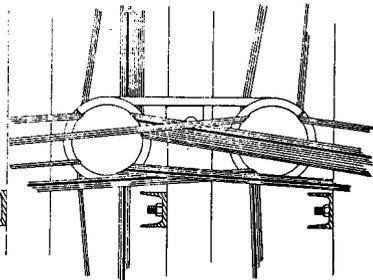
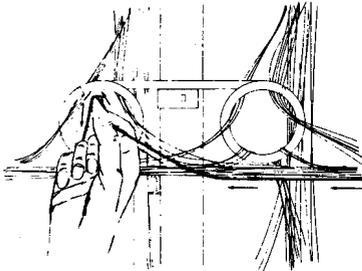

FIGURE 3. Line Drawing Designed to Illustrate How Jumpers, Ideally, Should Enter and Leave Rings.
FIGURE 4. Right Hand Receiving a Right-to-Left Jumper (HLIDF) and Placing It Into Ring at the Top Inside Edge.
- 5.04 Figure 3 is a line drawing of jumpers entering and leaving a ring and is being used *only* to illustrate the distribution of jumpers to different sections of the ring, depending on the direction of origin and termination. Figures 4, 5, and 6 illustrate the correct use of rings when running jumpers, i.e., with the wire slack and *resting lightly* against the rings.
- a. Run the jumper into a ring on the same horizontal level with the jumper wire entering near the top inside edge. See Figure 4.